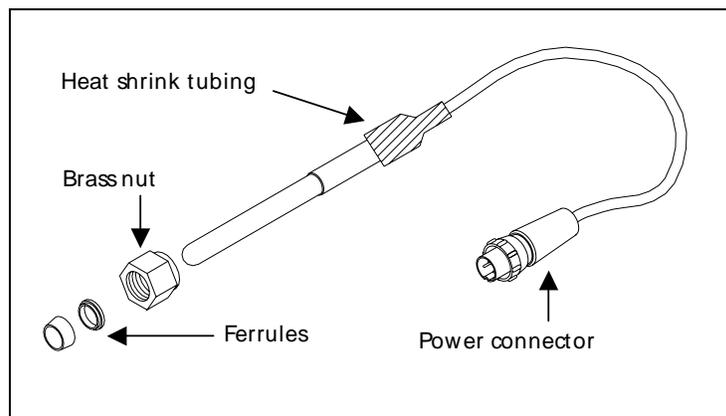
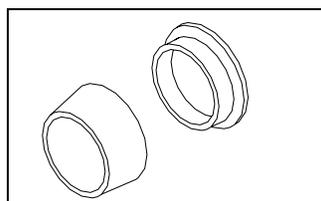

Figure 35: Relative Positioning of Components in the UV Lamp Assembly
Figure 36: UV Lamp Ferrule Orientation Detail
9. Slide the nut up the lamp housing (toward the connector cord), and then slide the ferrules up the lamp housing, until they are level with the black heat shrink tubing. Be careful when inserting the lamp into the Analyzer as the nut and ferrules may slide off. Refer to Figure 35 and Figure 36 for proper orientation of the ferrules.
11. Tighten the brass-colored nut finger-tight. While tightening the nut, make sure the heat shrink tubing remains flush against the nut (Figure 35). Do **not** use a wrench.